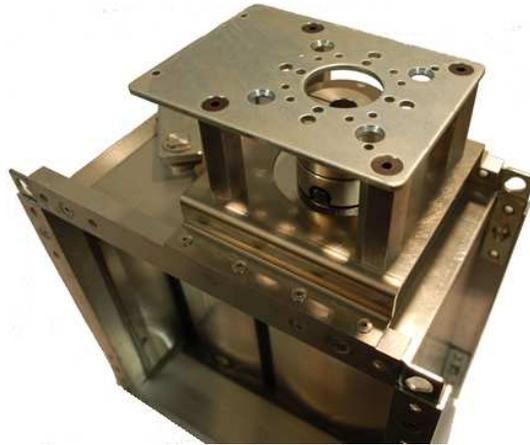

Figure 13: Bracket Assembly Mounted to Air Damper
8. Place the completed bracket assembly over the coupling, and line up the eight holes on the damper mounting bracket with the drilled holes on the lip of the air damper. One end of the actuator mounting bracket sticks out from the rest of the bracket assembly. Make sure that the keyway or flat of the "D" in the coupling is facing away from that end of the actuator mounting bracket. Once properly oriented, install a pop rivet in each of the eight holes. Note that only six rivets will be used on an 8" x 8" air damper. Once complete, the assembly should look as shown in Figure 13.